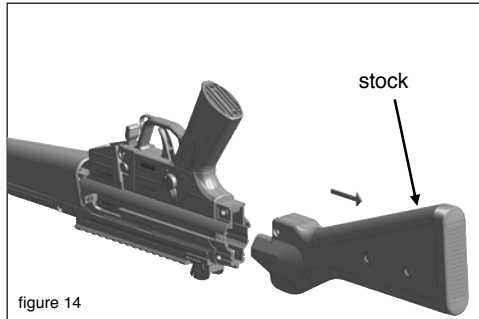
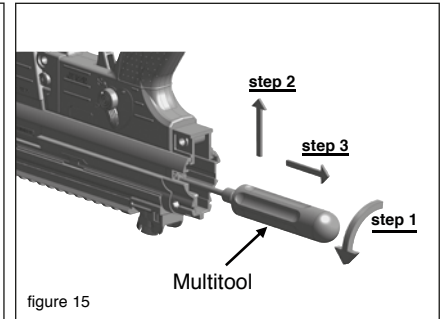

figure 14
figure 15
5. Remove the stock (figure 14) and unscrew the breech-fixing-part with the multitool (figure 15; step 1)
6. Put the breech fixing part into the receiver with the multi-tool and move the breech fixing part into its slot exactly in front of the breech housing (see figure 15 and 16 on page 24).